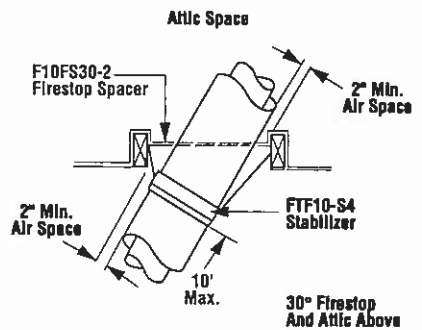
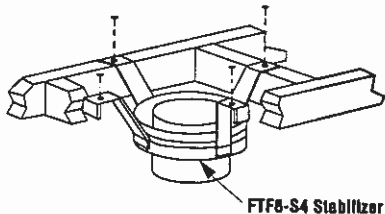

Figure 21
Figure 26
It may be necessary to assemble the chimney at 30° when passing through the floor or ceiling area. Use the F10FS30-2 firestop spacer as shown in Figures 21 and 22. Support the chimney at floor or ceiling penetration with a FTF10 stabilizer if distance of chimney below ceiling is 10' or more. Maintain 2" minimum air space to combustibles from chimney sections.
Install the Model FTF10-S4 stabilizer by fitting inner section down into respective section of proceeding flue pipe and locking outer stabilizer section into place over the outer chimney pipe. Position for proper clearance through framed opening and nail straps securely (under tension in "shear") into place on framing. Use 8d nails. Attach successive lengths of chimney pipe directly to stabilizer using same techniques as described in Step 4 (Figure 26).
Step 1. Use Offset Chart to determine amount of horizontal offset (A) and height (B) for various chimney section assemblies.
Step 3. Use Elevation Chart as job estimator only. Add necessary firestop spacers and stabilizers as required. Firestop spacers must be used as shown in Figures 21 and 22 and stabilizers as shown in Figure 26.